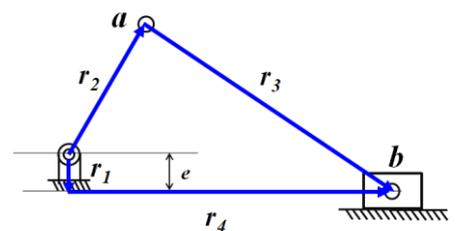

Fig. 2 An offset crank-slider
2. Fig. 2 show an offset crank-slider. For the mechanism, if  $e=50\text{cm}$ ,  $r_2=200\text{cm}$ ,  $r_3=400\text{cm}$ , (a) Max. transmission angle and Min. transmission angle, (b) The stroke of this offset crank-slider. (15%)